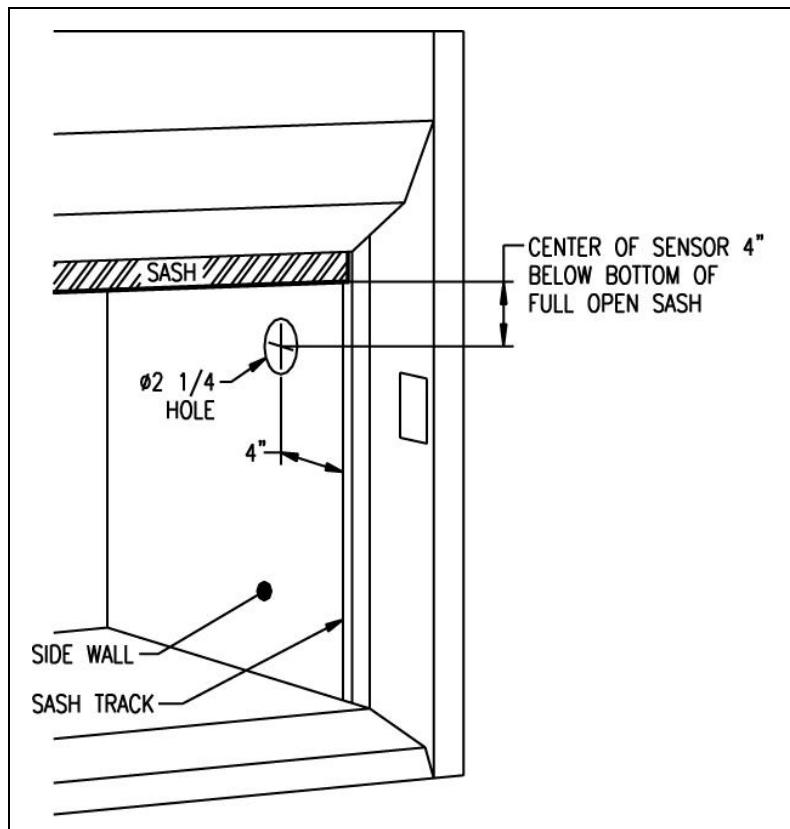

Figure 2: Velocity Sensor Location
1. Determine VELOCITY SENSOR location. Use Figure 2 as a guideline.